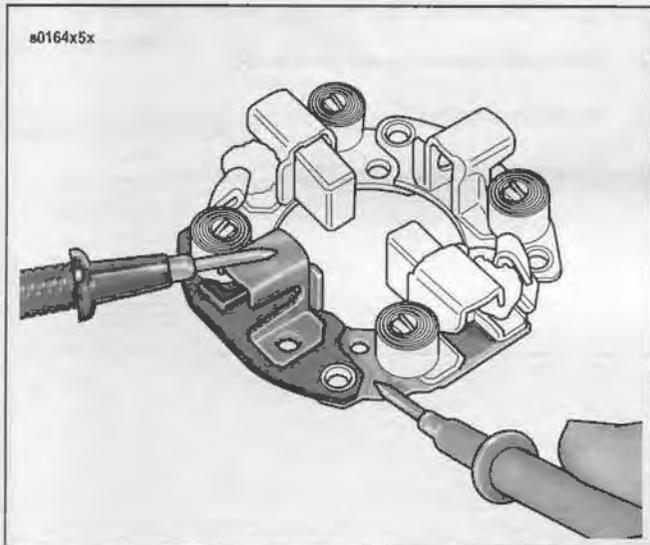

Figure 5-22. Brush Holder Insulation Test
15. See Figure 5-22. Test BRUSH HOLDER INSULATION with an ohmmeter or continuity tester. Touch one probe to holder plate and the other probe to each of the positive (insulated) brush holders. There should be no continuity (infinite ohms). If there is continuity at either brush holder, the brush holder assembly should be replaced. Touch one probe to the non-insulated brush holders and the other probe to the holder plate. If you measure any resistance, the brush holder must be replaced.